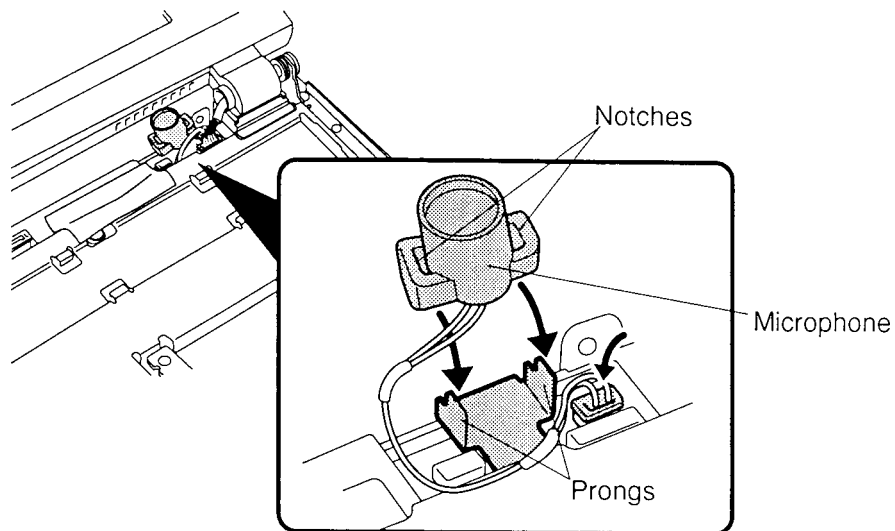

Figure 4-18 Installing the microphone
To install the T4900CT's backup battery and microphone, follow the steps below and refer to figures 4-18 through 4-20.
1. Fit the **two notches** on the microphone onto two prongs on the computer (figure 4-18).